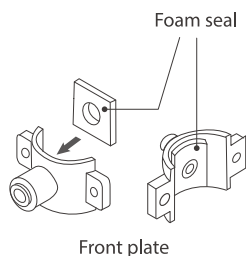

Figure 8
b. Choose a spot on the drainpipe that is convenient for installing the drain saddle. **(Figure 8)** Drill a 1/4" hole in the drainpipe. Be sure not to penetrate the opposite side of the pipe.